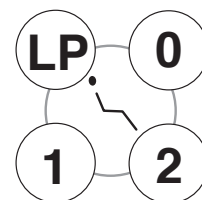

Fig.3-9 Chair Auto Mode Control Switch
⑥ Chair Auto Mode Control Switches(Fig.3-9) **A E**
- a. Momentarily press the preset-1 switch (1), the chair moves to the preset 1 position and stops automatically.